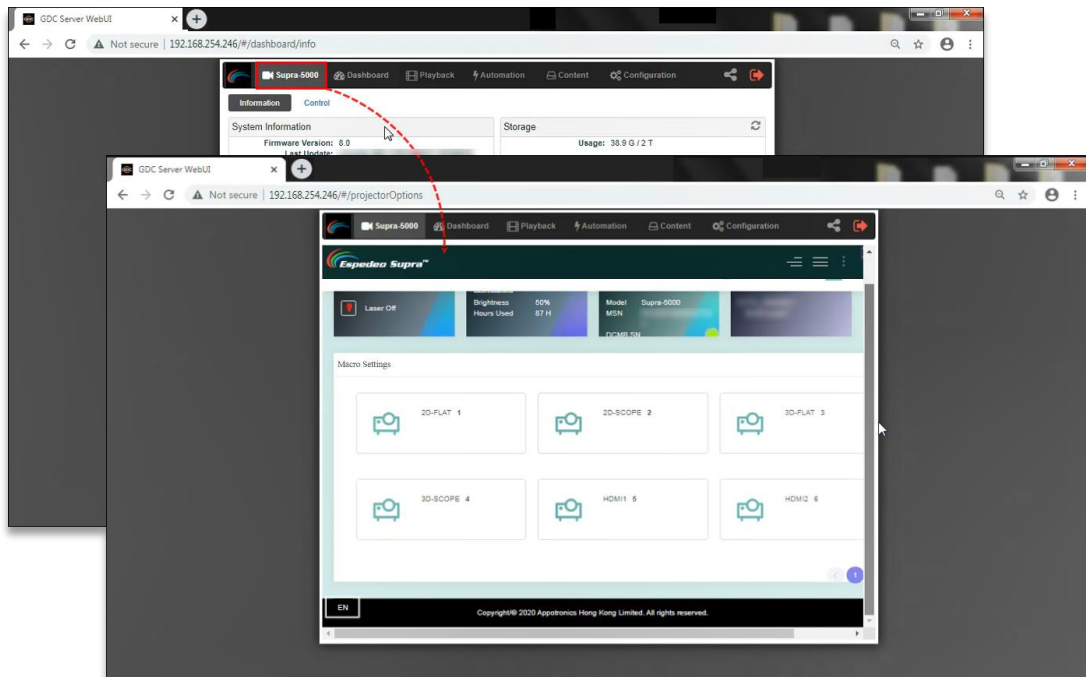

Figure 18:
- a. When the **Single tab mode** option is enabled; you can access the Supra Command Center web interface within the DCMB Web UI by clicking on the '**Supra-5000**' tab (as shown in **Figure 18**).